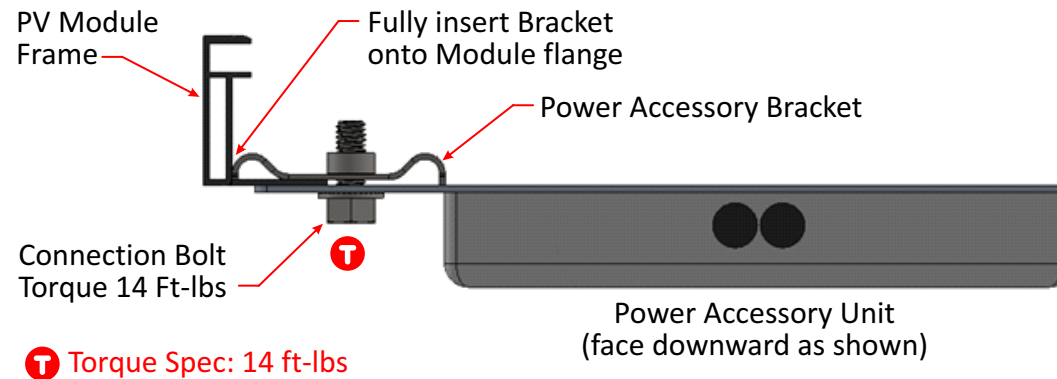

Figure 2: Power Accessory Bracket Installation
- The bracket must be fully inserted onto the return flange of the PV module (See Figure 2)
- The power accessory unit must face downward as shown in Figure 2
- The connection bolt must be tightened to a torque value of 14 ft-lbs as shown in Figure 2